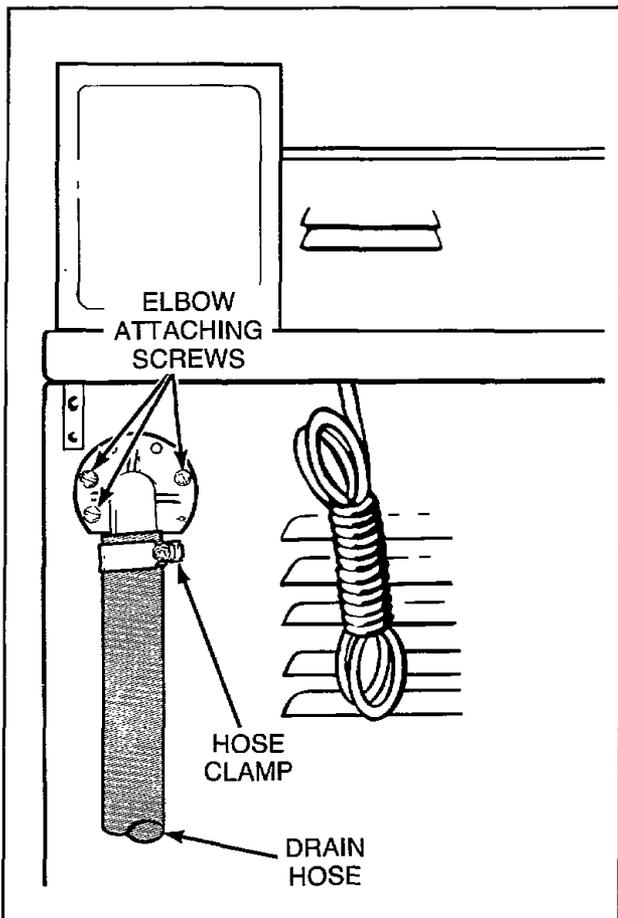

Figure 9
9. DRAIN HOSE ELBOW (Refer to Figure 9)